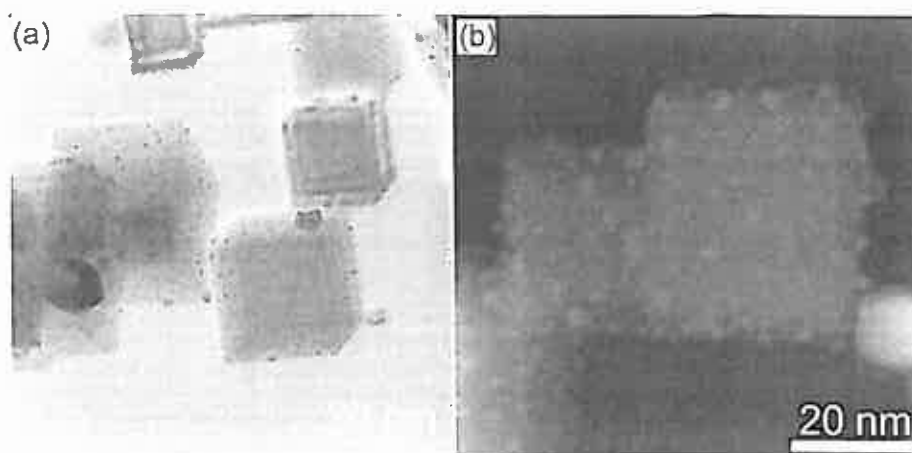
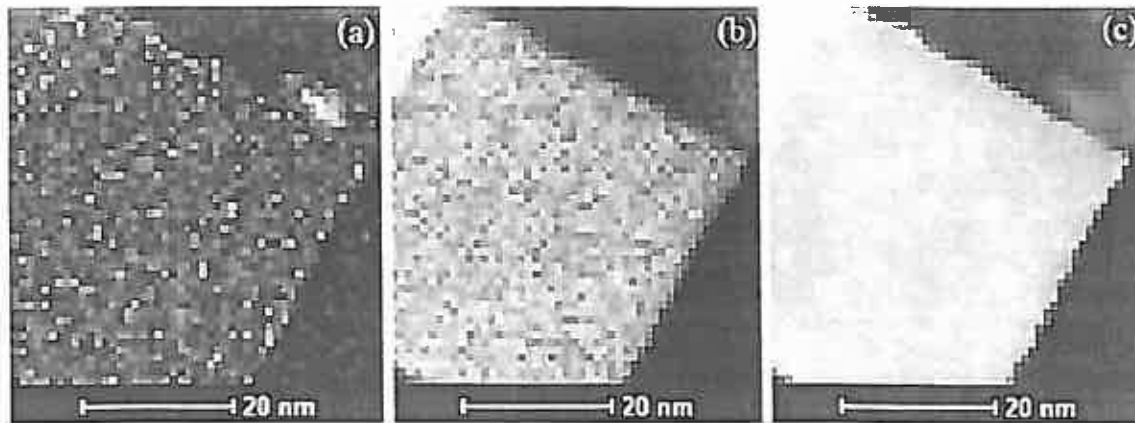

Figure 2: (a) BF-TEM and (b) HAADF STEM image of TiN nanodice with Ag nanoparticles.
Figure 3: STEM EDS maps of TiN nanodice with Ag recorded in TEM (a) Ag-L, (b) Ti-K and (c) N-K.
To image the Ag nanoparticles on the TiN nanocubes could be tricky. In BSE only the heavy Ag particles should light up. However, the BSE resolution is 5-10 nm, so for the smaller Ag particles it might be difficult or even impossible (answer to 2(a) might be relevant for the marking here). SE imaging has the resolution needed, but less contrast. However, judging from Figure 2 there is enough topography contrast possible and there might be a constructive Z contribution at low beam energies and low HT to visualize the Ag nanoparticles clearly (see §5.5.1 and Figure 5.18 (TiCN particles)). The aim of this question is to test if the student knows difference between SE and BSE image contrast and resolution. 5 points awarded if answer + argumentation shows this insight. 1 bonus point might be awarded if SE1-SE2 and BSE1-BSE2 are addressed in a relevant way in the answer (Figure 5.19). EDS maps have not the spacial resolution to determine the size of the TiN and Ag nanoparticles. Resolution, contrast, and topology must be named in answer.
In the selected area the amorphous carbon would give 2 broad rings and the powder with nanoparticles would give sharp rings as the powder contains many random oriented TiN and Ag crystals. Argument can be that only 1 TiN dice (spot pattern) in aperture and many Ag particles (ring pattern). Many draw TiN as rings and Ag as spots, maybe because in the labs they studied carbon nanotubes with just a few metal seed particles, so there never full rings. However here there are many metal particles (see Fig. 2).
A bright field (BF) TEM is shown in Figure 2(a) and a high angle annular dark field (HAADF) scanning TEM (STEM) in Figure 2(b).
What are the two main contrast forms present in BF TEM images like Figure 2(a)? How is a BF image formed? Make a simple sketch to support your answer.
For BF-TEM mass-thickness contrast and, diffraction contrast are present, but not phase-contrast. Atomic number or Z-contrast is the answer is the contrast in HAADF-STEM. The Ag nanoparticles are bright dots on the TiN cubes in figure 2(b).
In the TEM the composition of the nanoparticles can be characterised by energy dispersive spectroscopy (EDS). Some EDS maps are shown in Figure 3. Why do the images in Figure 3 have a relatively poor resolution compared to the (S)TEM images in Figure 2? Suggest and explain the principle of an alternative analytical technique in an electron microscope to determine the composition of these nanoparticles.
The main issue is that the image is based on counting statistics. To get a trustworthy result in each pixel, a higher number of counts per pixel per element edge should be recorded. Larger number of pixels would lead to impractical very long counting times. Specimen drift, specimen damage or build-up of contamination becomes a limiting factor. §5.3.1 goes into detail on this. For (S)TEM EDS the specimen is thin, hence a small volume creates the characteristic X-rays resulting in a lower counting rate than in SEM-EDS (in addition the detector is further away and has a smaller area than in SEM). p 354 discusses the low signal in thin specimens. A TEM or STEM image as in Figure 2 is recorded in one process step (not adding scan after scan) and more pixels can be used.